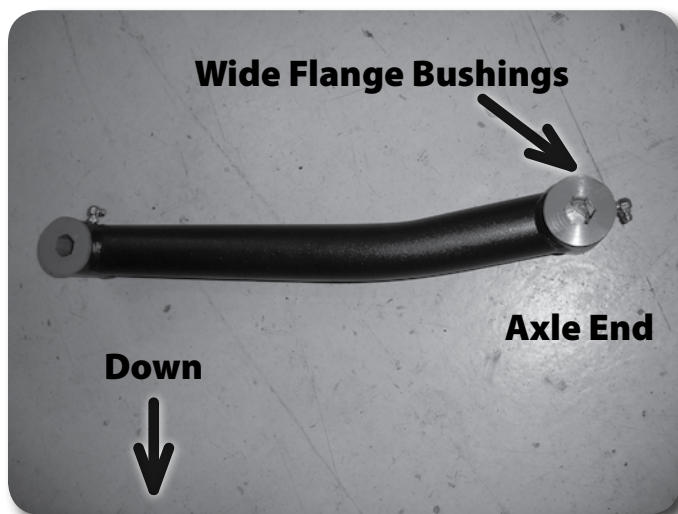

Figure 1
2. Locate the new front lower control arms, control arm bushings, control arm sleeves and grease fittings. Apply grease to the bushings and sleeves to prepare them for installation in the control arm ends. Install the bushings with the wide flange in the short (axle) end of the control arms along with the longer 0.750 x 0.090 x 3.140 sleeves. Install the remaining narrow flange bushings and sleeves (0.750 x 0.090 x 2.620) in the long (frame) end of the control arms. Install the grease fittings in the threaded holes in each end. The fitting at the frame end should point toward the body of the arm. The fitting at the axle end should point toward the ground when the arm is installed. **Figure 1**